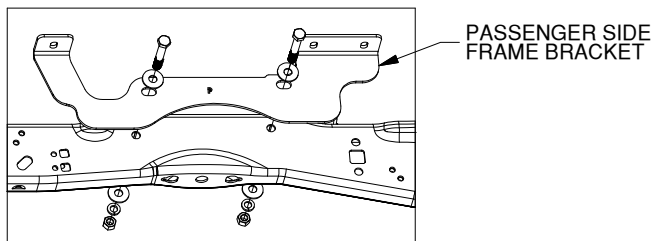

Figure C1: Frame bracket installation on passenger side of frame.
1. **Install the frame brackets.** Locate two 5/8" x 4" cap screws and two 5/8" washers. Pass the cap screws with the flat washers through the frame bracket and the frame. Secure the frame bracket on the inside of the frame with two 5/8" flat washers, 5/8" lock washers, and 5/8" finish nuts, as shown in Figures C1 & C2. Do not tighten the mounting hardware at this time.